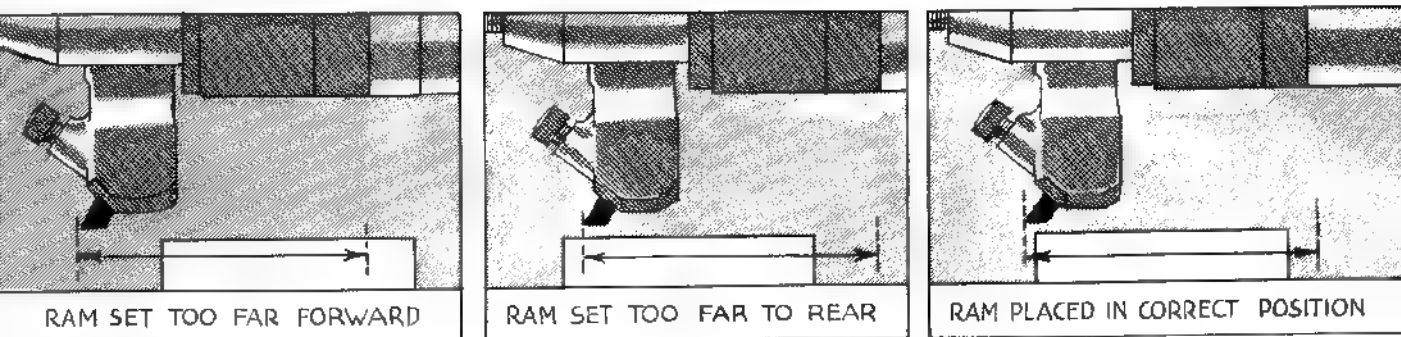

FIG. 82
7. If the cutting tool has run beyond the forward end of the work more than one-fourth of an inch (the desired clearance at this end), the rear trip dog has been improperly placed. See Fig. 82. To correct this condition, move the rear trip dog forward a distance equivalent to the distance which the tool has overrun the job in excess of the usual quarter-inch allowance.